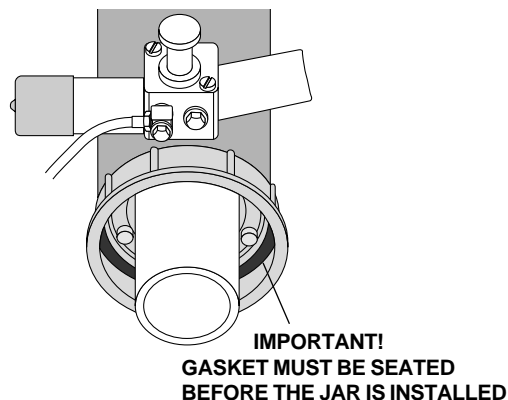

FIGURE 32
4. Screw the solids separator jar onto the bottom of the vacuum drain assembly. **Be sure the gasket is properly seated (see Figure 32).**